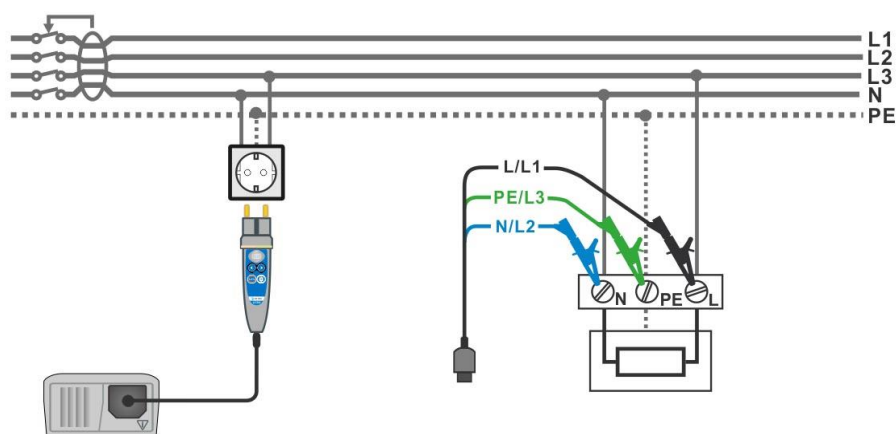

Figure 5.17: Connecting the plug commander and the 3-wire test lead
- ❑ **Connect** test leads to the item to be tested (see figure 5.17).
- Connect** test leads to the item to be tested (see figure 5.17).
<input type="checkbox"/> Select the RCD function using the function selector switch. <input type="checkbox"/> Set sub-function AUTO . <input type="checkbox"/> Set test parameters (if necessary). <input type="checkbox"/> Connect test cable to the instrument. <input type="checkbox"/> Connect test leads to the item to be tested (see figure 5.17). <input type="checkbox"/> Press the TEST key to perform the test.	Start of test